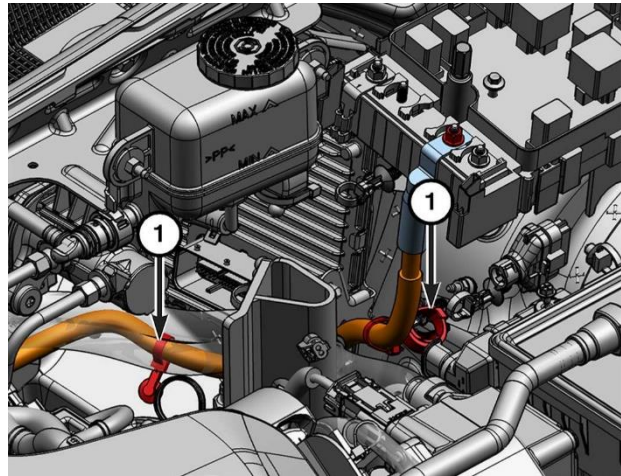

Figure 28 – 12-Volt Cable Clips
10. Release the clips (1) that secure the 12-volt cable (Figure 28).
39. Position the 12-volt cable next to the PDC then secure the clips (1) (Figure 28).